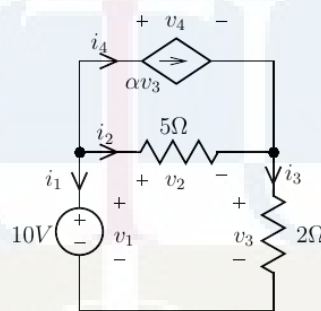

Figure 2:  $\alpha = 0.5$
- (b). Explain how 'damping' can be used to improve convergence in nonlinear equation solutions using Newton-Raphson method. (4)
12. (a). For the circuit shown in Fig. 2, formulate the Sparse Tableau Analysis (STA) matrix from the fundamental equations. Take  $\alpha=0.5$ . (10)